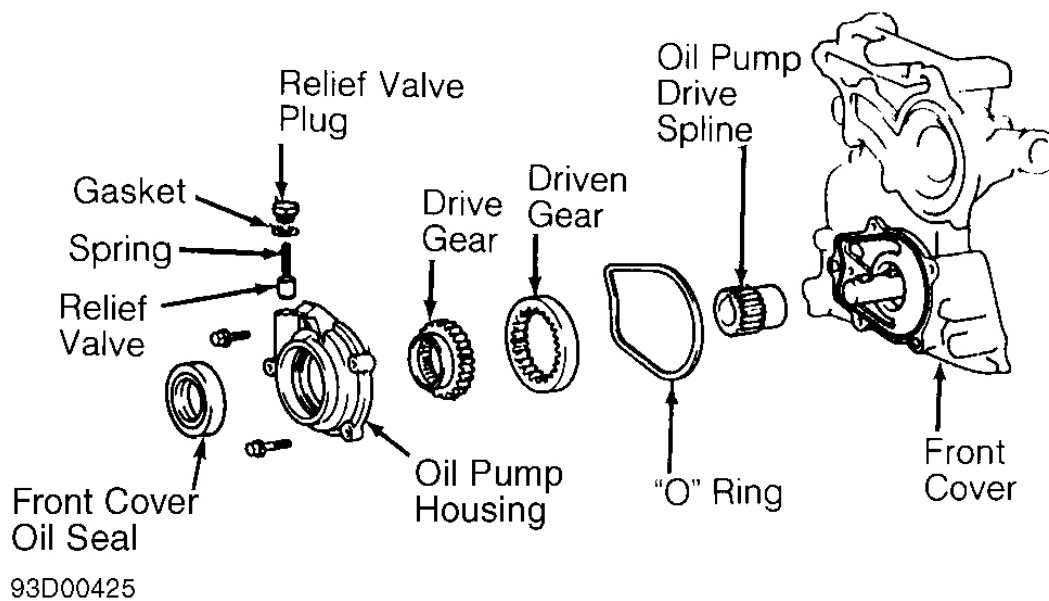

Fig. 17: Exploded View Of Oil Pump & Components
3. Remove A/C compressor with hoses attached and secure aside (if equipped). Remove A/C compressor bracket. Remove bolts, oil pump and "O" ring from front cover. Disassemble oil pump. See **Fig. 17**.